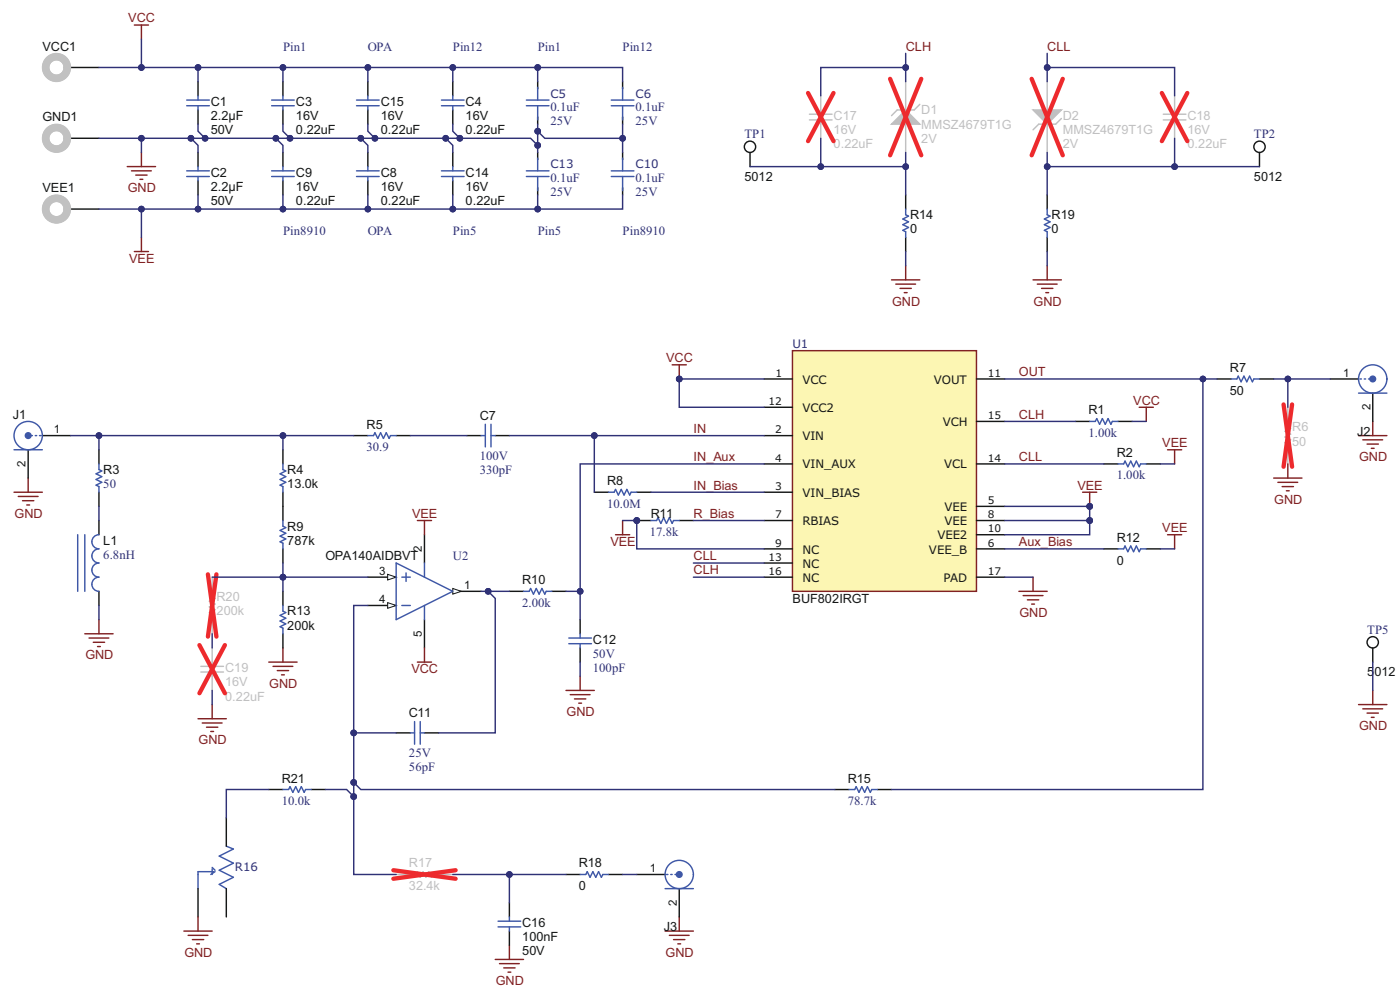

图 11-1. Layout Example: Schematic for Layout Reference
- **Peaking in the S21 transfer function:** keeping the trace length minimum is of prime importance to ensure no peaking occurs in the S21 transfer function of the BUF802. The trace inductance can form a resonant circuit with the input capacitance of the BUF802, causing peaking in the S21 response. Add a small resistor ( $R_5$  in 图 11-1) in series with the DC blocking capacitor to dampen the LC resonance created by the trace inductance and the input capacitance of the BUF802. Choose series capacitors ( $C_7$  in 图 11-1) with low equivalent series inductance (ESL) to minimize total inductance.
- **Power-supply bypass capacitors:** mount the power-supply bypass capacitors as close to the supply pins as possible and on the same side of the PCB as the BUF802. As shown in 图 11-1, choose low-inductance LICC capacitors ( $C_5$ ,  $C_6$ ,  $C_{13}$ , and  $C_{10}$ ) to minimize high frequency impedance between the BUF802 and the bypass capacitors. Use multiple vias between the bypass capacitor and GND to reduce series inductance. As shown in 图 11-1, also use multiple vias to GND on the  $50 \Omega$  input termination resistor ( $R_3$ ). Connect the bypass and termination vias to a solid GND plane.